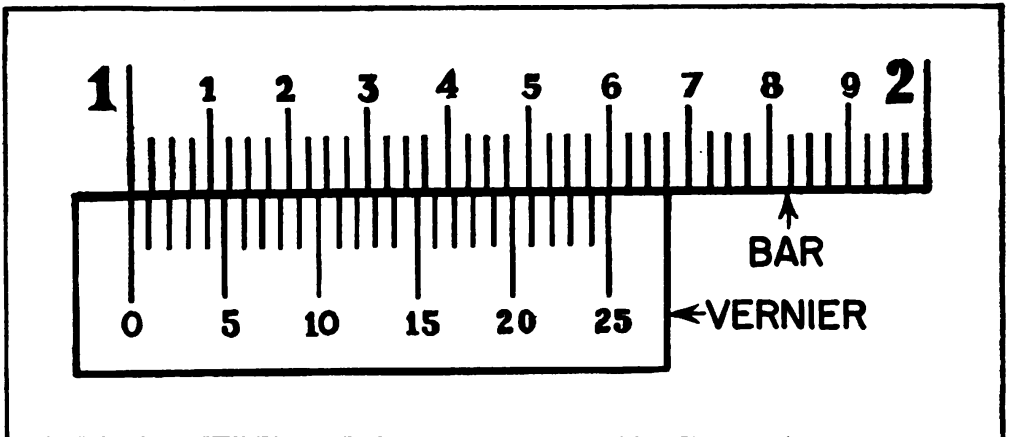

FIGURE 99.—Vernier scale.
a. Vernier scale.—The fundamental idea behind the vernier scale is to divide a line of known length into equal parts, and to compare the length of those parts with those on a line the same length as the first one, but divided into one less part. Figure 99 shows a bar 1 inch long divided by graduations into 40 parts so that each graduation indicates one-fortieth of an inch (0.025 inch). Every fourth graduation is numbered (exactly as on a micrometer barrel); each number indicates tenth of an inch (4×0.025 inch). The vernier, which slides along the bar, is graduated into 25 divisions which together are as long as 24 divisions on the bar. Consequently, each division on the vernier is 0.001 inch smaller than each division on the bar.
In figure 99, 0 on the vernier coincides with 0 on the bar; the next graduations to the right on both vernier and bar will be 0.001 inch apart; the second pair 0.002 inch apart, and so on, until the graduations coincide again at 25 on the vernier.